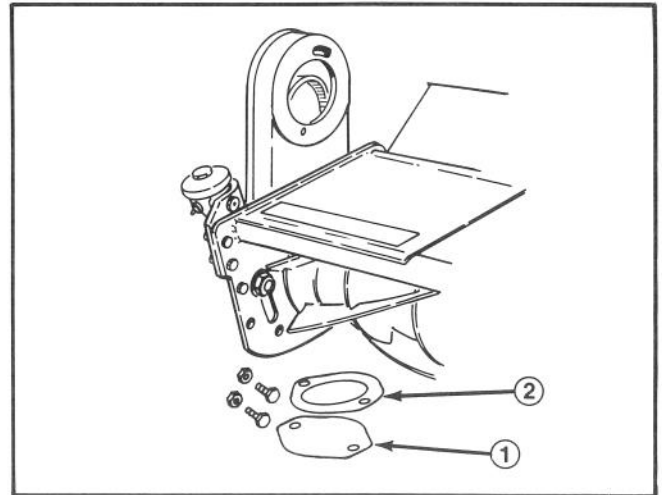

Figure 10
- A. Remove locknuts, bolts, shipping cover and drive plate shield (Fig. 10) from the cutting unit.